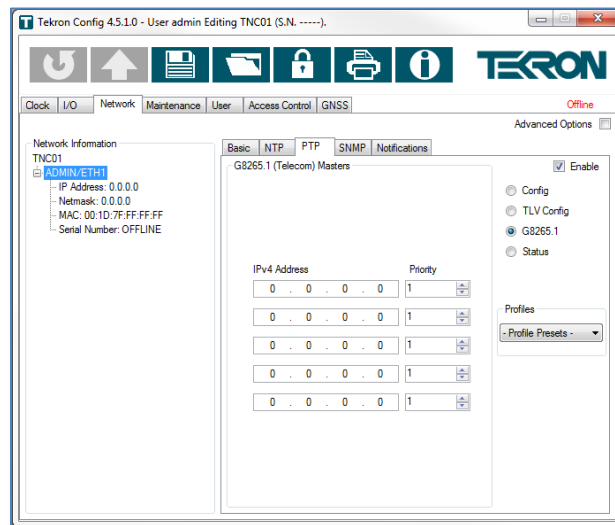

Figure 45 - "G8265.1" settings
**“G8265.1” radio button:** This section of Tekron’s Configuration Software contains the G8265.1 (Telecom) Master clock configuration settings (Refer to Figure 45). It only appears if the selected Ethernet port has been configured as a G8265.1 (Telecom) Slave.